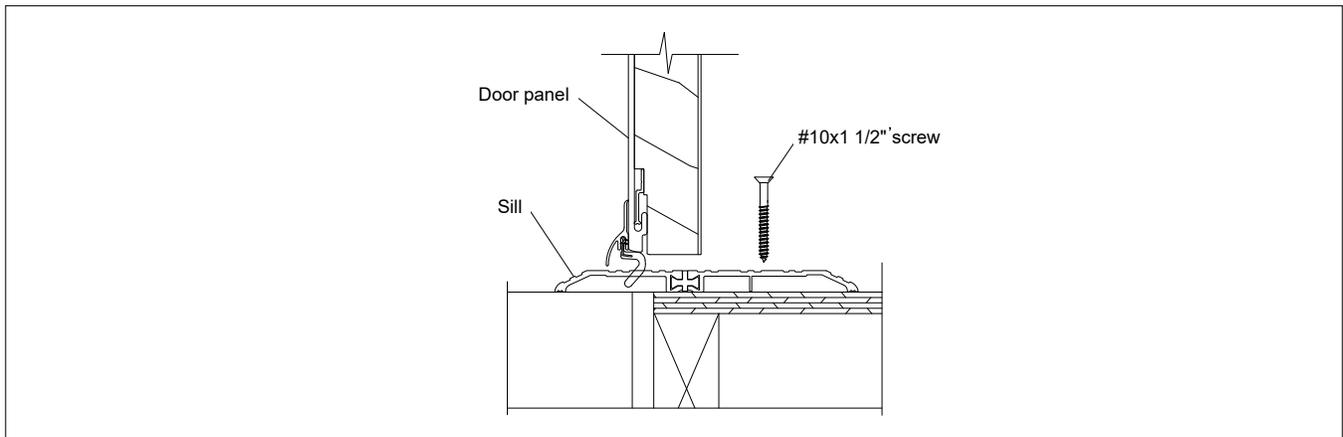

Figure 5 Illustrations shows clad but applies to wood as well.
8. **Securing the sill:** With the #10x1 1/2" flat head screws provided with the sill, drill through pre-existing holes. See figure 5.